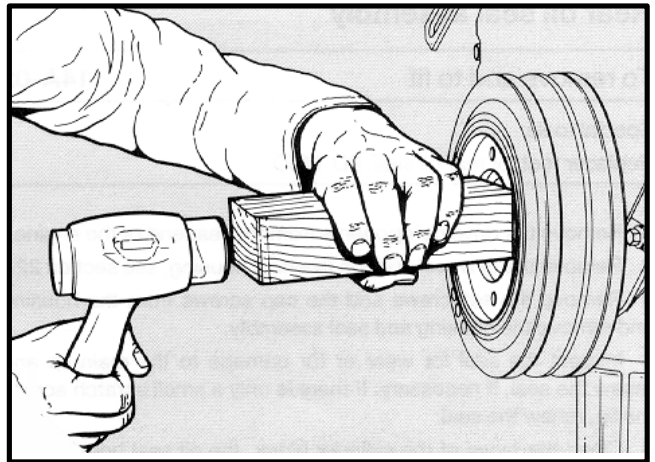

FIGURE 46. CRANKSHAFT PULLEY INSTALLATION, ENGINES YA AND YB
2. See FIGURE 47. Remove the three capscrews which hold the pulley to the crankshaft. Remove the thrust block. If the crankshaft pulley will not slide from the crankshaft, **DO NOT** use a puller to remove the pulley. Hold a wood block against the inner hub of the pulley and lightly hit the wood block with a hammer. See FIGURE 46. This action will loosen the inner ring (2) and outer ring (3) so that the pulley can be removed from the crankshaft as shown in FIGURE 47.